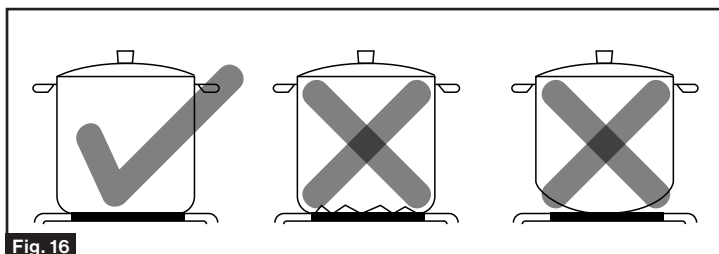

Fig. 16
- Do not use cookware with jagged edges or a curved base. Make sure that the base of your pan is smooth, sits flat against the glass. (Fig. 16)